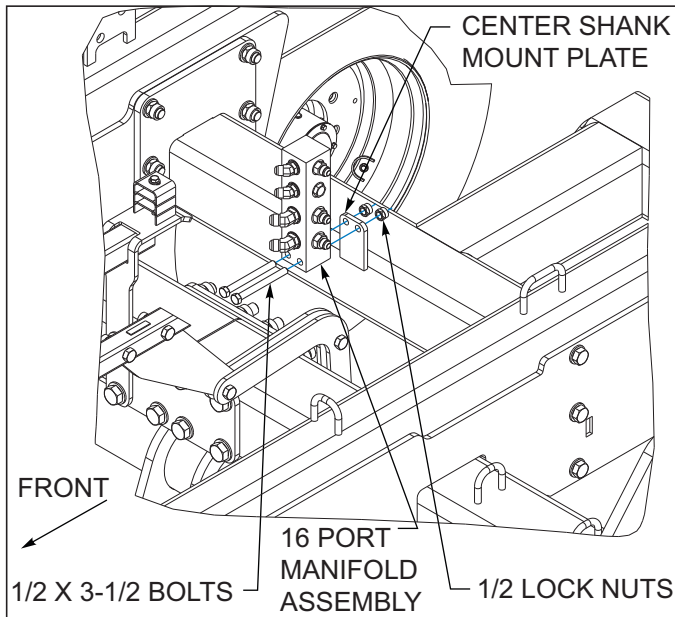

Figure 3-16: 16 Port Manifold Installation 2411-06
1. Model 2411-06 install the lift/gang 16 port manifold to the center shank mount plate using 1/2 x 3-1/2 bolts and 1/2 lock nuts See Figures 3-16.